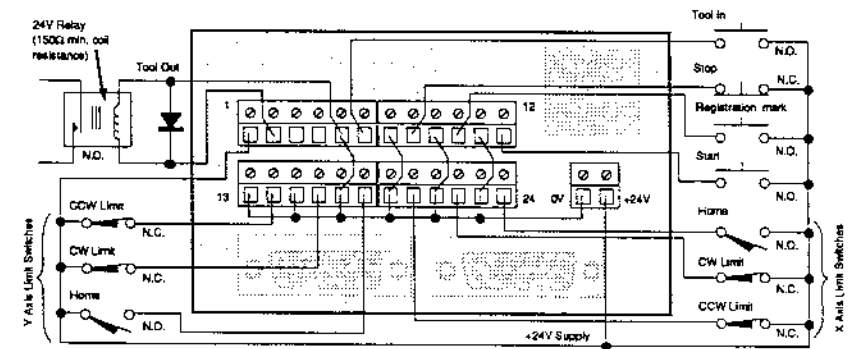

Figure 3-2. I/O Connections to the MC20
Table 3-1 identifies the functions of each I/O connector pin (24 pins total). Figure 3-2 illustrates the I/O connections to the MC20.
You must install normally-closed switches returned to +24V to ensure that motion is stopped if the limit is *tripped* (opened) or if the limit connection is broken. Refer to Figure 3-2 for limit input connections. When the load trips the limit switch, the axis decelerates to a stop at the limit deceleration rate (see *Configuring the MC20* in Chapter 4). **These limit inputs must be connected to +24V if limit switches are not required (see *Disable The Limit & Stop Inputs* in Chapter 2).**
The home input is used to establish the home position (discussed in Chapter 4). Connect the home switch to the +24V supply via a normally-open switch (see Figure 3-2). The input operates when the switch is closed to +24V, drawing a current of 20mA. Switch debounce is incorporated.
As an alternative to the keypad Start button, you can wire a remote normally-open start switch to a +24V supply (see Figure 3-2). You can initiate the current programmed move by closing the switch.
As an alternative to the keypad Stop button, you can wire a remote normally-closed stop switch to the +24V supply (see Figure 3-2). When the stop input switch is opened, the axis currently in motion decelerates to a stop at the programmed limit deceleration rate. **This input must be connected to +24V if a stop switch is not required (see *Disable The Limit & Stop Inputs* in Chapter 2).**
Aux In 2 is the Registration Mark input. It is optically isolated and requires +12 to +24V at pin 10 to operate, with pin 9 connected to 0V (see Figure 3-2). The registration pulse for registration moves is applied to this input. The input is activated by the positive edge of a +12 to +24V pulse.
The Tool Out output switches on (high) to start a remote tool operation at the end of a move (when the axis is not moving). Its output can drive 300mA from a +24V source to energize a relay (to start a tool cycle, for example). The collector and the emitter of the output transistor are connected via I/O connector pins 1 and 2, respectively (refer to Figure 3-2). The voltage and current ratings of the output devices are limited to 24V and 300mA, respectively.
The Tool In input is used as an optional trigger input to start the next move in a series of successive batch moves. It is an opto-isolated input requiring +12 to +24V to drive it. The Tool In input is connected via I/O connector pins 5 and 6 (refer to the input connections in Figure 3-2).
1. Make sure the limit switches are wired properly (see Figure 3-2).
If the shaft does not stop, press the Stop key (or open the remote stop switch) and check the CW and CCW input connections against Figure 3-2.